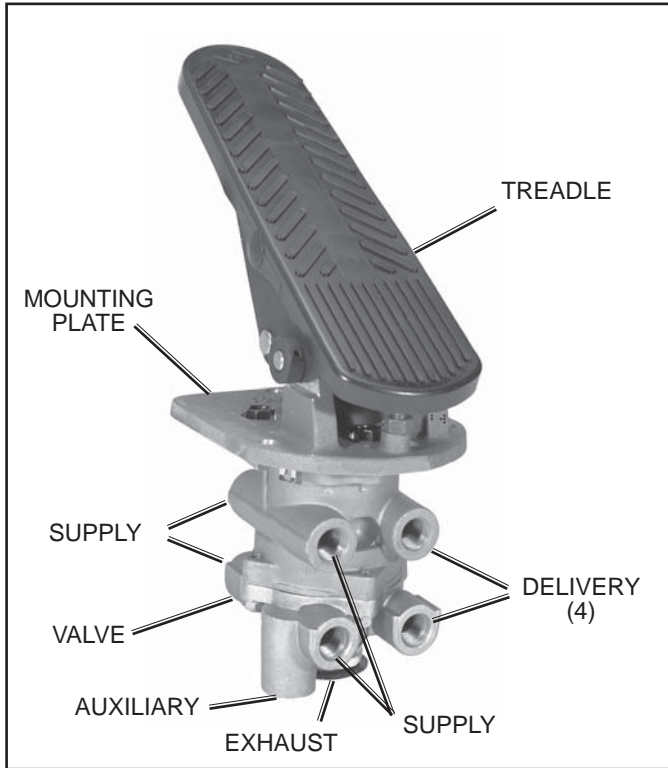
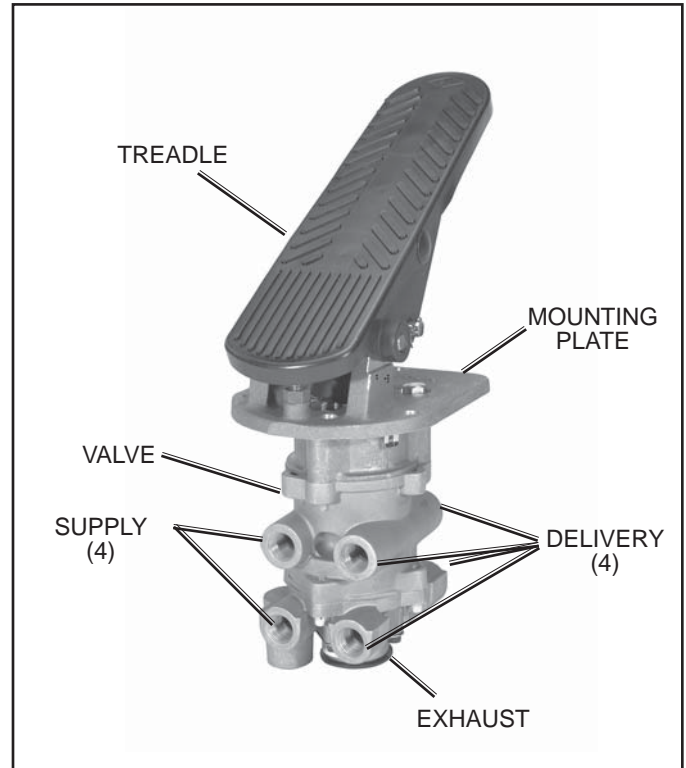

FIGURE 1 - E-8P™ DUAL BRAKE VALVE
FIGURE 2 - E-10P™ DUAL BRAKE VALVE
The Bendix® E-8P™ (Figure 1) and E-10P™ (Figure 2) dual brake valves are floor mounted, treadle operated type brake valves with two separate supply and delivery circuits for service (primary and secondary) braking, which provides the driver with a graduated control for applying and releasing the vehicle brakes.
The E-10P™ dual brake valve (Figure 2) is similar to the E-8P™ dual brake valve except that a metal coil spring (5) housed in an upper body assembly replaces the rubber spring (27) used in the E-8P™ valve. The use of a metal coil spring (and the upper body assembly) provides greater treadle travel and, therefore, provides the driver with a less sensitive “feel” when making a brake application. The E-10P™ dual brake